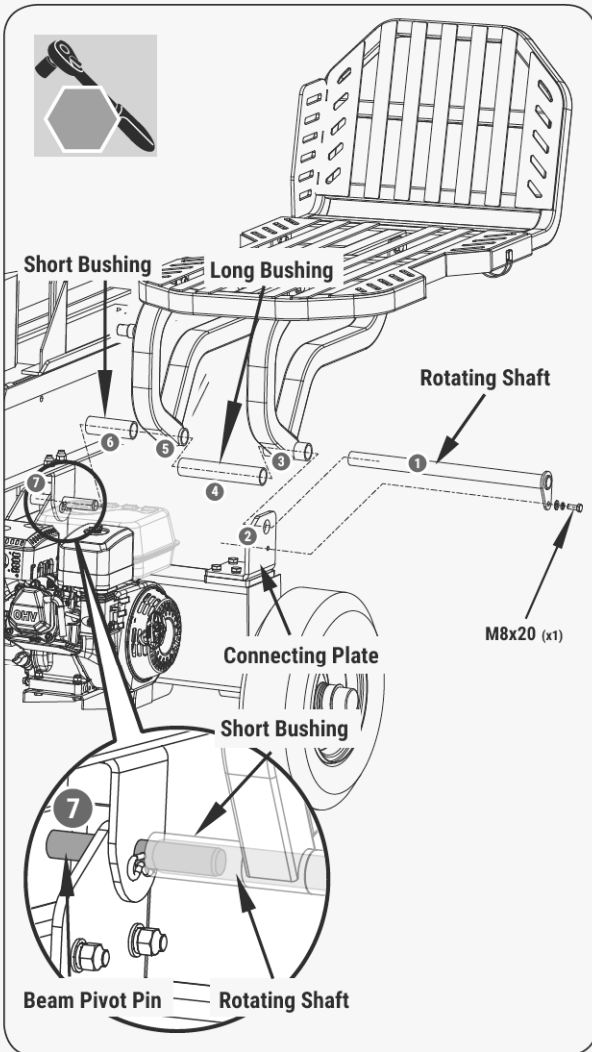

Figure 21b
2. Pass the rotating shaft through the connecting plate, right support leg, long bushing, left support leg, and short bushing in sequence, and finally, wrap it outside the beam pivot pin, then fix it on the connecting plate with M8x20 bolts and washers. (See **Figure 21b**.)